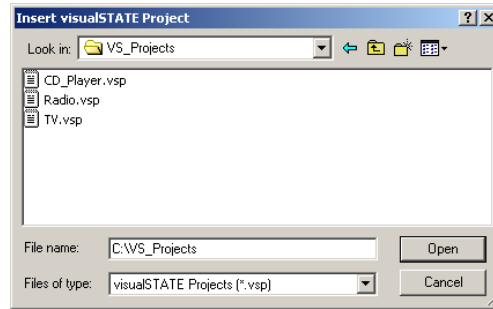

Figure 19: Insert visualSTATE Project dialog box
- 2 On the menu, choose File>Insert Project. A dialog box is displayed, see *Figure 19*, page 28.